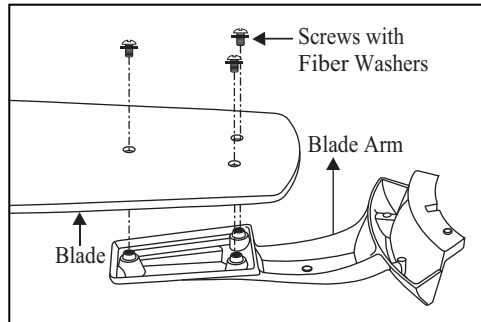

Figure 17
1. Attach blades to blade arm using the screws with fiber washers provided. (Fig. 17) Start a screw into the blade arm, do not tighten. Repeat for the 2 remaining screws and washers.